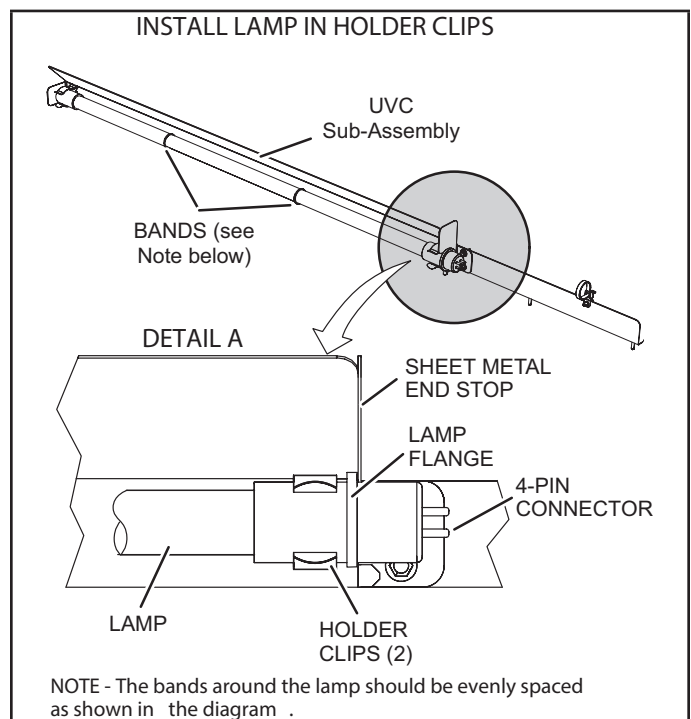

FIGURE 41
- 5 - Remove the (2) mounting screws of the UVC assembly. Carefully slide the complete UVC assembly out through the blower access door.
- 7 - Wear cotton gloves or use a cotton cloth when handling the new lamp. Place the new lamp in the holder clips of the UVC assembly. Verify that the lamp flange at the connector end is sandwiched between the lamp holder clip and the sheet-metal end stop (see FIGURE 41).